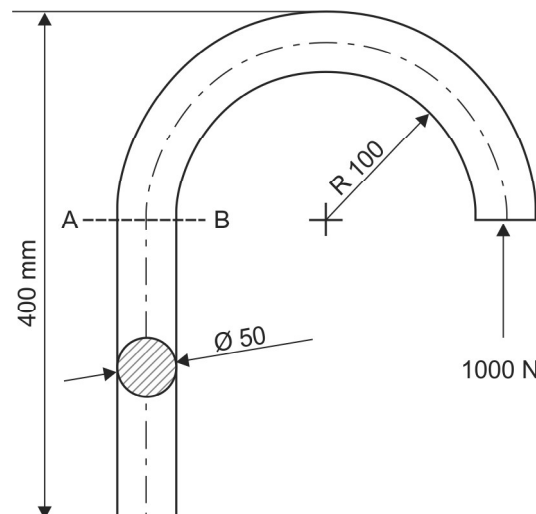

Fig. 1.14(a): Problem 10
10. Determine the maximum tensile stress and maximum shear stress of the component shown in Fig. 1.14(a) and indicate the location.